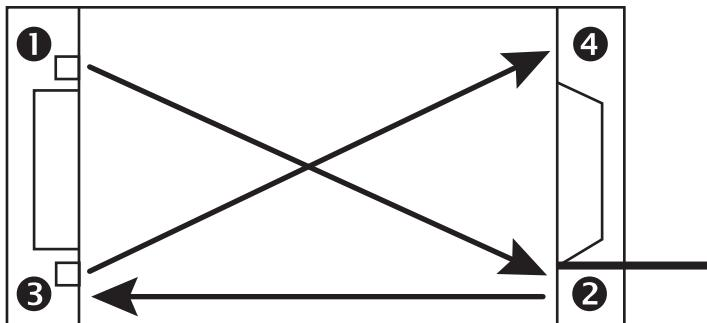

Figure 3-3. Torque and Tightening Pattern
1. *Lightly tighten* down the M3 metric or 4-40 UNC screws in diagonal order (refer to Figure 3-3, below). Use DIN 125 ISO 7089 washers (3.2 mm inner diameter, 7 mm outer diameter) made of A2 material.
2. Using the correct torque, tighten down the screws in diagonal order (follow the 1-2-3-4 sequence shown in Figure 3-3, above). The correct torque depends on the type of thread being used (M3 metric or 4-40 UNC) and the property class of steel used in the screw. A standard torque value for commonly-used M3 screws is 100 Ncm = 1 Nm. The overall flatness of the heatsink should be < 0.05 mm.